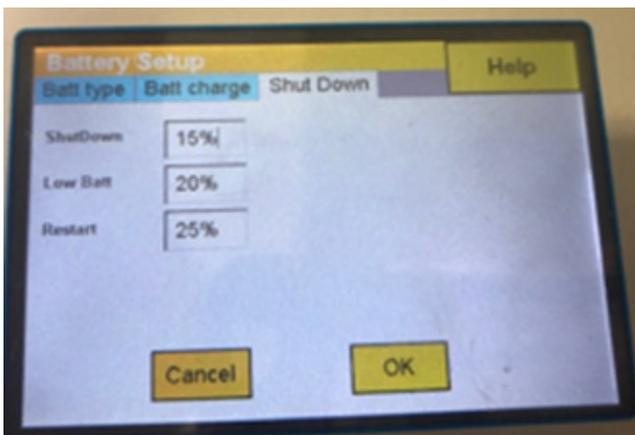

Figure 10: Battery Setup - Shut Down settings
- Go to the "Battery" section under the settings menu. Press "Shut Down" and enable the Shut Down settings. Refer to figure 10